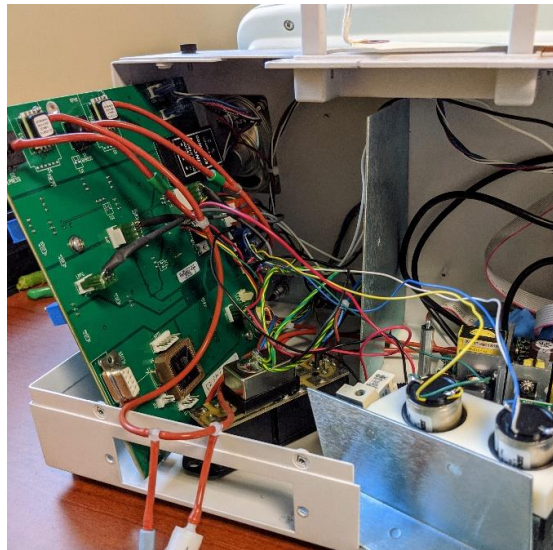

Figure 46
- 17.12. Place the Series 2 Pump & Valve Bracket Assembly (11935-0000-01) into the Chassis as shown in Figure 46. Attach the Internal Hose serial numbers, saved in Step 12.23, to the Bracket Assembly near its serial number.